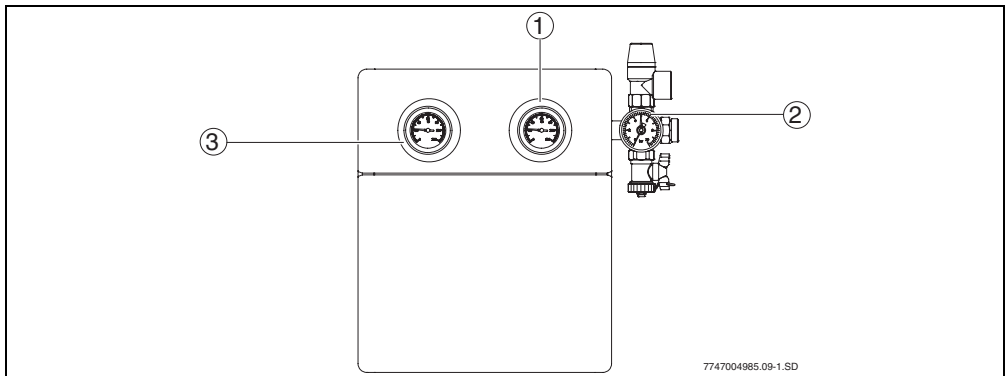

Fig. 7 Solar pumping station
- Thermometers (→ Fig. 7, items 1 and 3): The built-in thermometers display the temperatures of the solar return (blue) from the solar cylinder to the collector field and flow (red) from the collector field to the solar cylinder.
- Pressure gauge (→ Fig. 7, item 2): The pressure gauge displays the operating pressure.